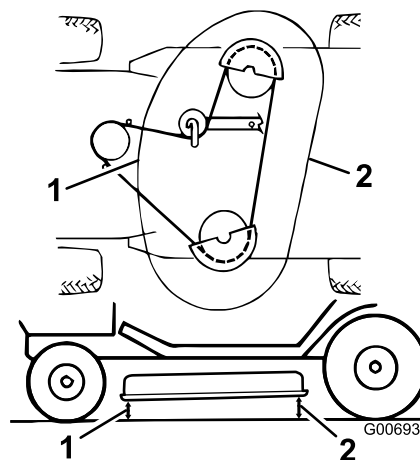

Figure 50
9. Check the front-to-rear slope by measuring between the bottom of the mower (front center and rear center) and the flat surface (Figure 50). If the front is not within a range of 1/8 to 3/8 inch (3 to 10 mm) lower than the rear, adjust it.